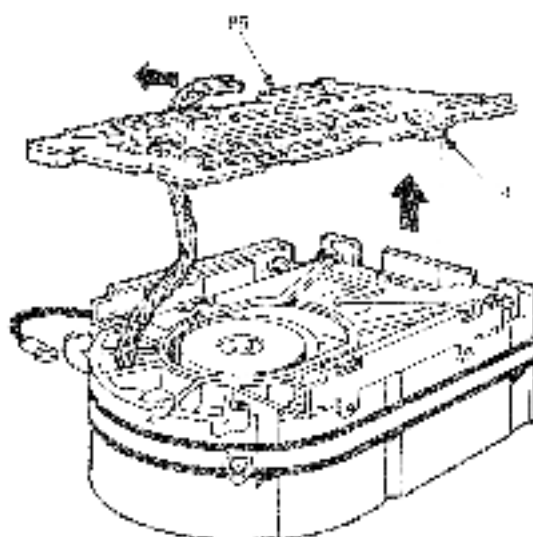

Figure 8-15 MPCB Removal
6. Lift the MPCB straight up until it clears the chassis. This disconnects P4, a 12-pin fixed plug (Figure 8-15).
1. Remove the four Phillips screws retaining the slide plate and ground clip. Set the slide plate aside (Figure 8-15).